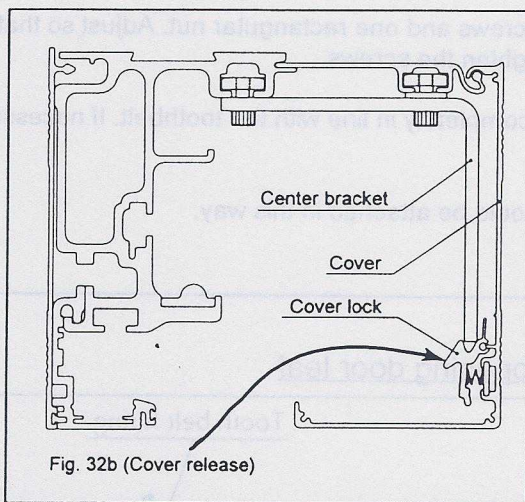

Fig. 32b (Cover release)
2. Reach into the bottom of the cover and push on the cover lock (see fig. 32b). At the same time pull the lower part of the cover outwards until the cover is released from the cover lock. Repeat this procedure for all cover locks.